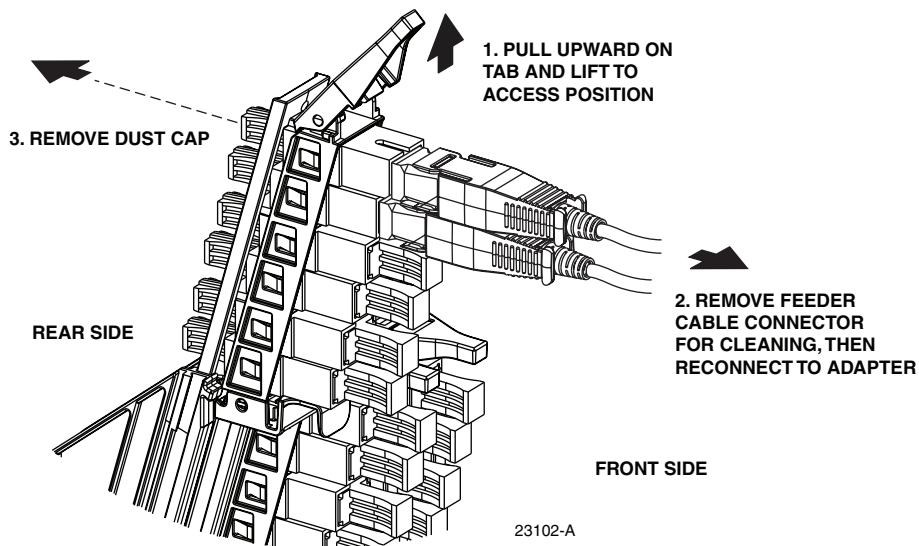

Figure 31. Typical Adapter Pack Raised to Access Position
16.1.2 Pull upward on the small tab on top of the adapter pack and lift the adapter pack to the position shown in Figure 31.